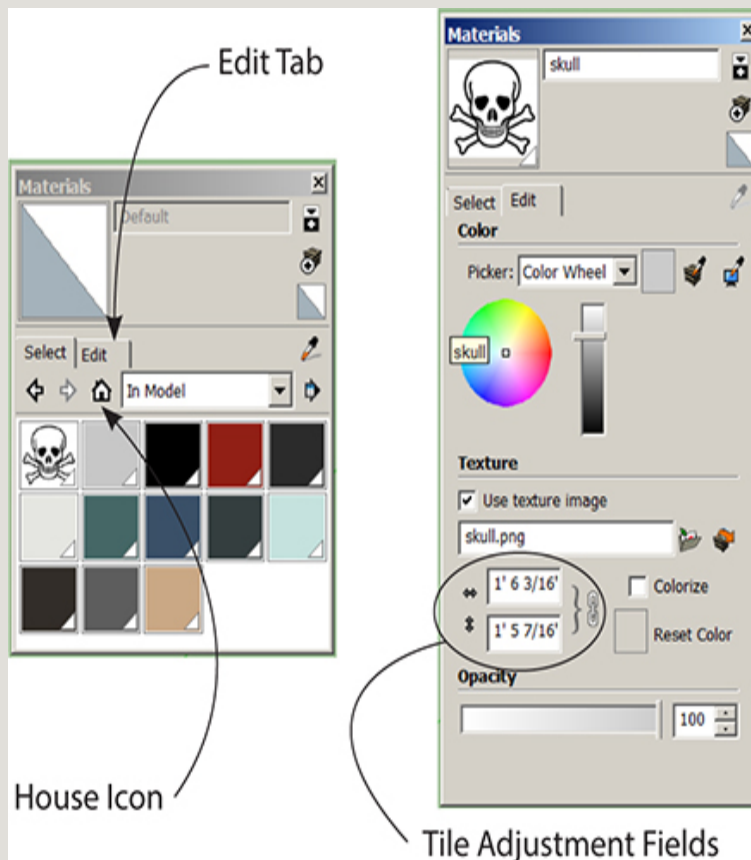

Figure 5-41 Click on the House icon and then on the Edit tab to find the tile adjustment fields.
2. Adjust the tile size. Click on Window > Materials. Then click on the House icon, which shows all textures in the model. Click on the imported texture and then on the Edit tab. A panel will appear; if you don't see all the fields shown in Figure 5-41, drag the bottom of the panel down with the mouse to make it larger. The numbers in the text fields are the tile length and width. Highlight one and type a different size. The other will adjust proportionately. To change the length and width non-proportionately, click the link icon next to the tile fields first.